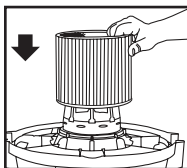

FIGURE 15
20. With the tank cover in an upside down position, slide the cartridge filter down over the lid cage, pushing until the filter seals against the cover. **FIGURE 15.**